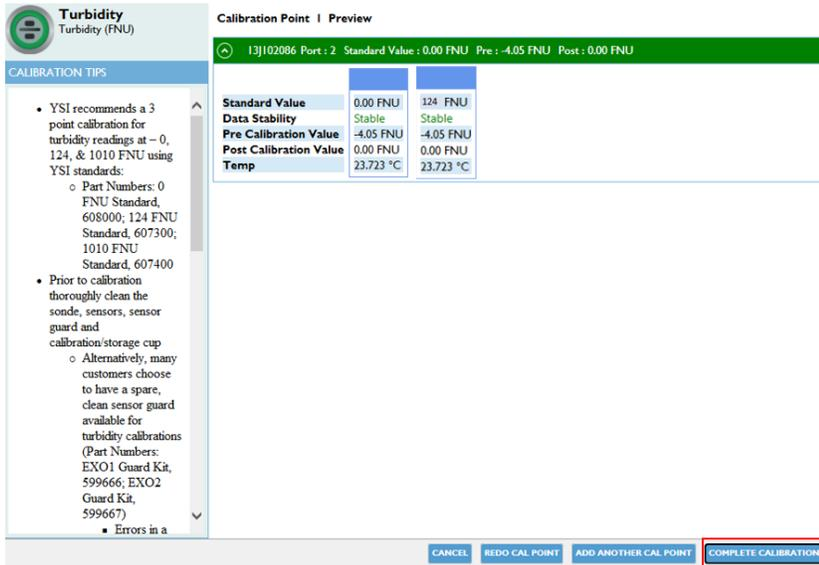
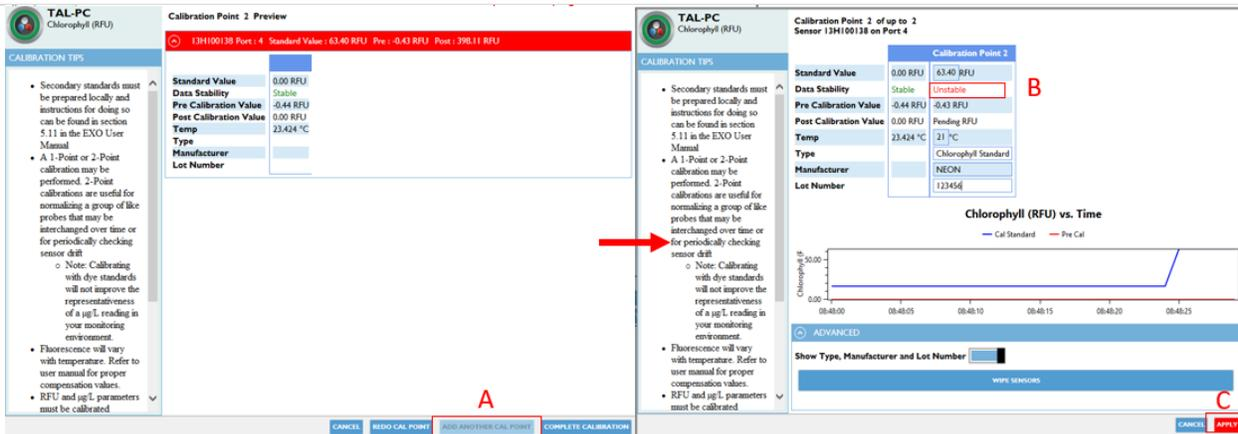

Figure 94. "Complete Calibration" once appropriate number of points complete.
Figure 98. Complete first calibration point and then proceed to second.
**Note: 63.40 ug/L is a site-specific value (in Figure 98).** The next standard for the second calibration point uses a temperature corrected value. Determine these values in the Cleaning and Calibration Solution Fulcrum Application. If Fulcrum is unavailable, determine the temperature correction manually by referencing the label on the stock solution bottle.
**STEP 7** | When the window displays Stable Data in green, select the option to “**Apply**” (C in **Figure 98**). Then click “**Complete Calibration**” (**Figure 94**) to return to the calibration menu.